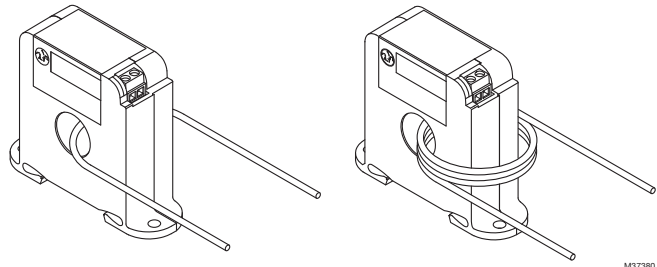

Fig. 3. Wires Through Sensors
The conductor being monitored may be looped through the sensor multiple times. The loops increase the current measured by the current switch. Each time the conductor passes through the current switch window equals one loop. (See Fig. 3) To determine the proper number of loops required, take the rated Fixed Trip Point or Minimum Adjustable Trip Point (see Table 2) of the current switch and divide it by the Operating Current of the Monitored Device, add one (1), then round up to the nearest whole number. Example: When using the CS-O-A, a small fan operating at 0.17A should be wrapped through the sensor four times to give you a total operating current of 0.68 Amps flowing through the CS-O-A. Formula Example:  $(0.5A/0.17A) = 2.94 + 1 = 3.94$ , which rounded up equals 4 loops.
LED didn't turn on and the current switch didn't activate	Verify that the current flowing in the conductor being monitored is above the fixed trip point as listed in the operating specifications. If the sensor is monitoring less than the fixed trip point See Fig. 3.
Red LED didn't turn on and the current switch didn't activate	Verify that the conductor you are monitoring is above the adjustable trip point. If the sensor is monitoring less than the adjustable trip point, see Fig. 3.